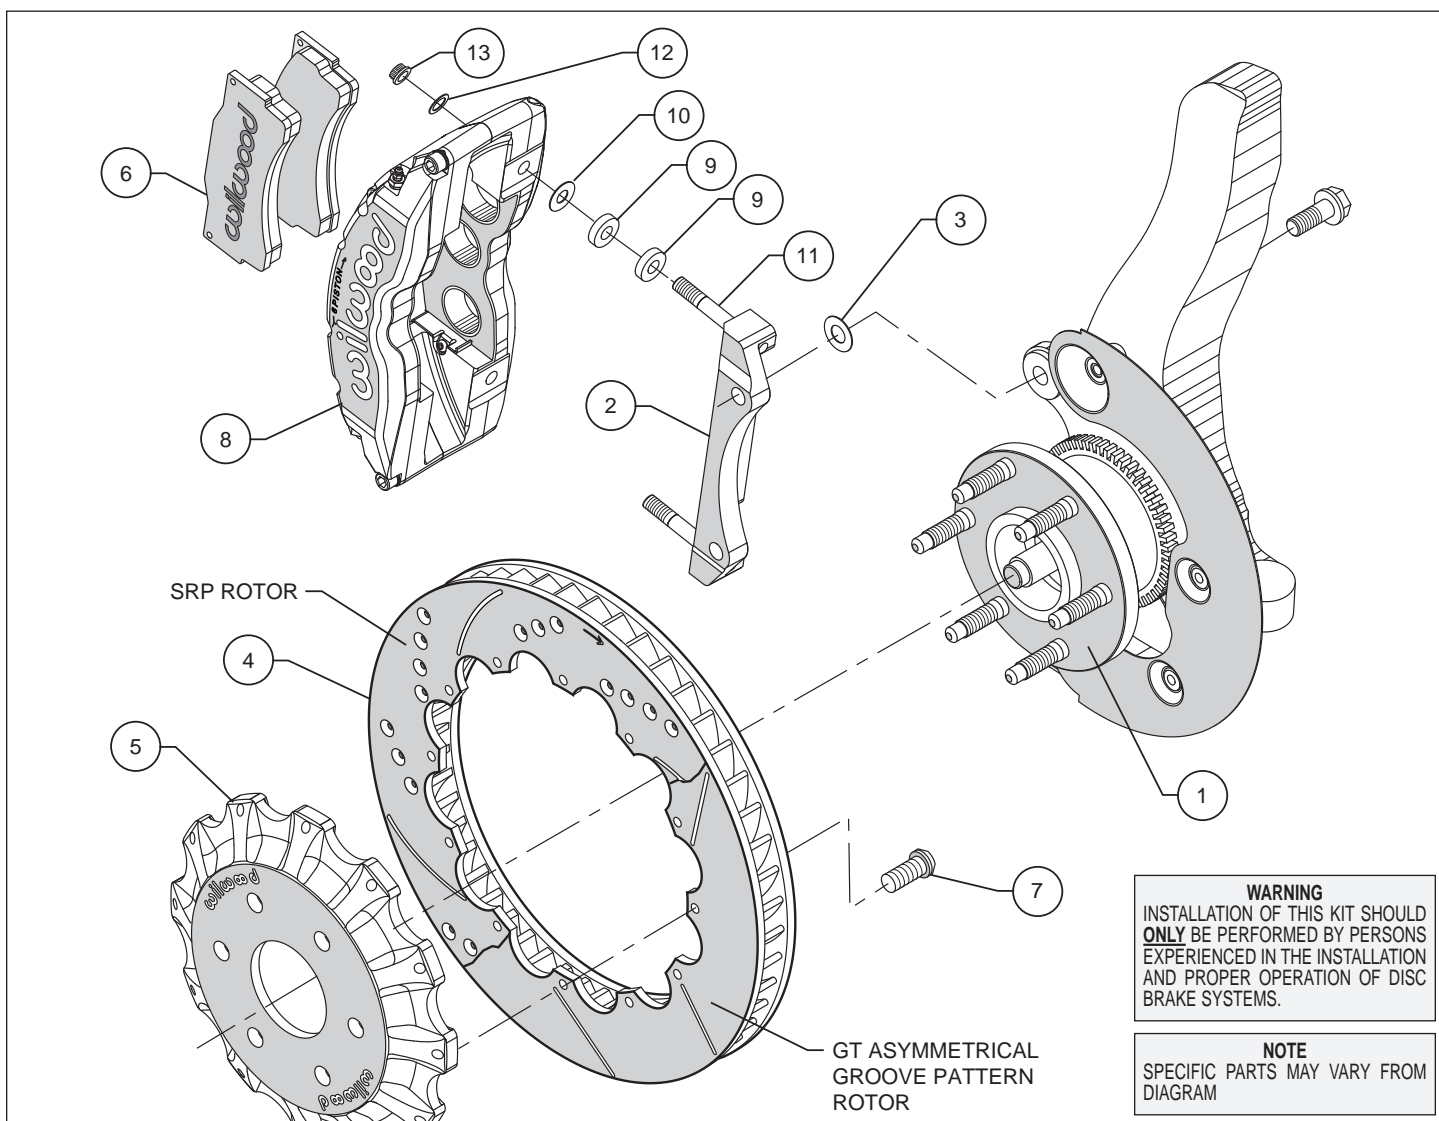

Figure 1. Typical Installation Configuration
- The caliper mounting bracket assembly (2) should be installed first with clean, dry threads on the mounting bolts. Install the bracket from the outboard side of the spindle by sliding the stock bolt through from the backside. Place shim washer (3) between the bracket (2) and the spindle (see Figure 1). The bracket must tighten squarely against the side of the spindle body. Inspect for interference from casting irregularities, machining ridges, burrs, etc. Use one thin shim (3) between the bracket (2) and spindle during initial trial fitting.
- With the larger I.D. side of the rotor (4) facing away from the hat (5), attach rotor (4) to hat (5) using bolts (7) as shown in Figure 1. Finger tighten. Using an alternating sequence, remove bolts (7) one at a time, apply red *Loctite*[®] 271 to the threads and torque to 25 ft-lb.
- NOTE:** *Please reference the caution statement at the beginning of the assembly instructions.* Install two spacers (9) and one shim washer (10) over each pre-installed stud (11) on the radial mount bracket (2). Slide the caliper (8) in place over the studs and rotors and install the washer (12) and lock nut (13) to hold the caliper in place. The caliper bleed screws should be pointing up. Snug the lock nuts (13) and check that the rotor (4) is centered in the caliper (8). Add or subtract .024" shims (3) as necessary between the caliper mounting bracket (2) and the spindle to center the caliper (8).
- Remove the two caliper center bridge pad retainer bolts, nuts, tubes, and anti-rattle clips from the caliper. Slide the brake pads (6) into place. They should install easily without interference. Check that the outside radius of the brake pad is aligned with the outside diameter radius of the rotor face. Add or subtract shims (10) between the caliper and mount bracket to gain the proper alignment. Reinstall the first center bridge pad retainer and tube while sliding the bolt thru the mounting holes on the end of the anti-rattle clip, screw on the locknut. Push the opposite end of the anti-rattle clip downward and secure the second center bridge pad retainer tube, bolt and locknut on top of the anti-rattle clip, thus holding it firmly against the brake pads. The locknut should be snug without play in the bolt or tube. Be cautious not to over tighten.
- Once all clearances have been checked, remove the wheel, caliper, hat, and rotor from the spindle and hub. Secure the caliper mounting bracket (2) to the spindle with original bolts using red *Loctite*[®] 271. Torque the bolts to 85-95 ft-lb. Reinstall the hat and rotor assembly and again use lug nuts to hold it in place. Lubricate caliper mounting studs and nuts with lightweight oil, reinstall the caliper, torque the caliper nuts (13) to 47 ft-lb.